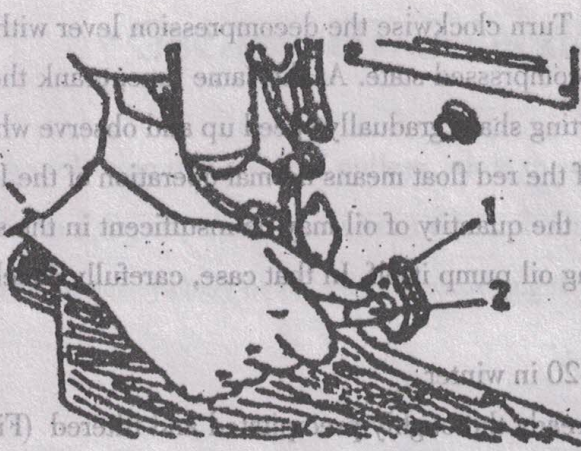

Fig. 6 Priming the fuel injection system
8. Set the speed-control lever knob at the START position indicated on the panel. Screw off the plug on the gear casing, insert the fuel priming handle through the hole and move it to and fro until a "chattering" action of the fuel injector is noted. Then take off fuel priming handle and re-screw on the plug (Fig. 6).